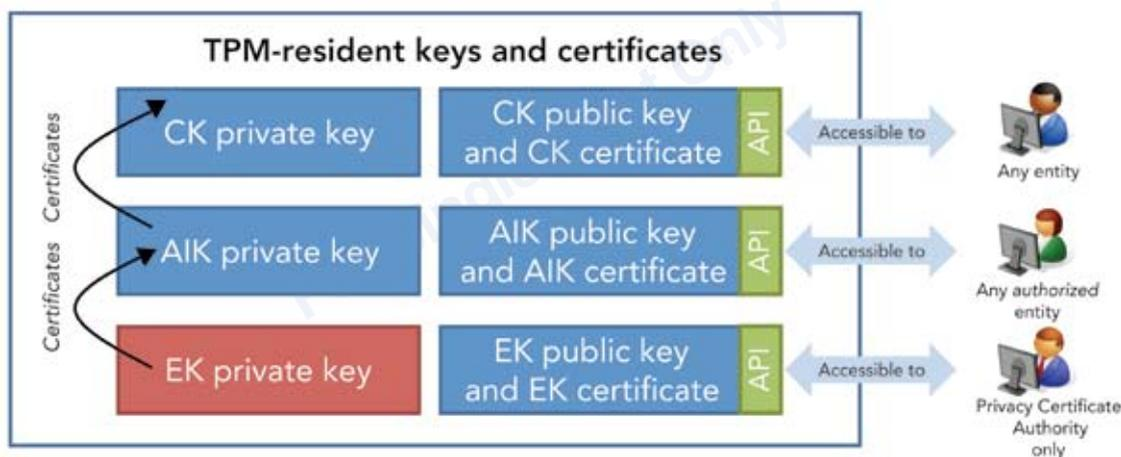

Figure 5
Different access is allowed depending on the type of TPM key. Working from the bottom up in Figure 5, each TPM has exactly one unique "internal" RSA key pair referred to as the *Endorsement Key* (EK) pair. Most TPMs include a preprogrammed EK pair, while some implementations can self-generate the EK pair onboard. The TPM has the exclusive ability to use the EK pair for a limited set of operations; entities or processes outside the TPM cannot use it directly.